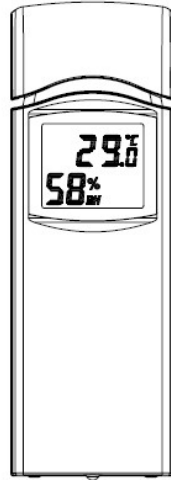

Figure 5
2. After inserting the batteries, the remote sensor will display temperature, humidity and barometric pressure on the display, as shown in Figure 5.